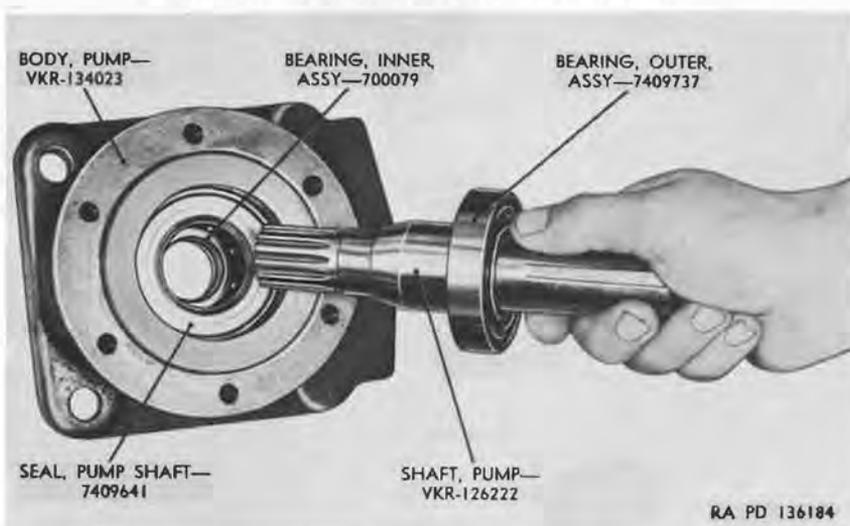

Figure 32. Pump shaft and outer bearing removed.
that they may be returned to this same location upon assembly. To remove pump shaft from pump body, remove the snap ring that holds the outer bearing assembly in place and tap on the splined or rotor end of the pump shaft, or stand the splined end on a soft block and press downward on the unit. The outer bearing assembly and pump shaft (fig. 32) will be removed by this action. The outer bearing assembly (H) is a press fit and to remove from pump shaft (L) use an arbor press. The oil seal is pressed in place and removal will cause its destruction. The small inner bearing assembly (G) is a very close fit into the pump body (N). Its removal is accomplished by tapping with a drift punch from the pump ring side of the body.